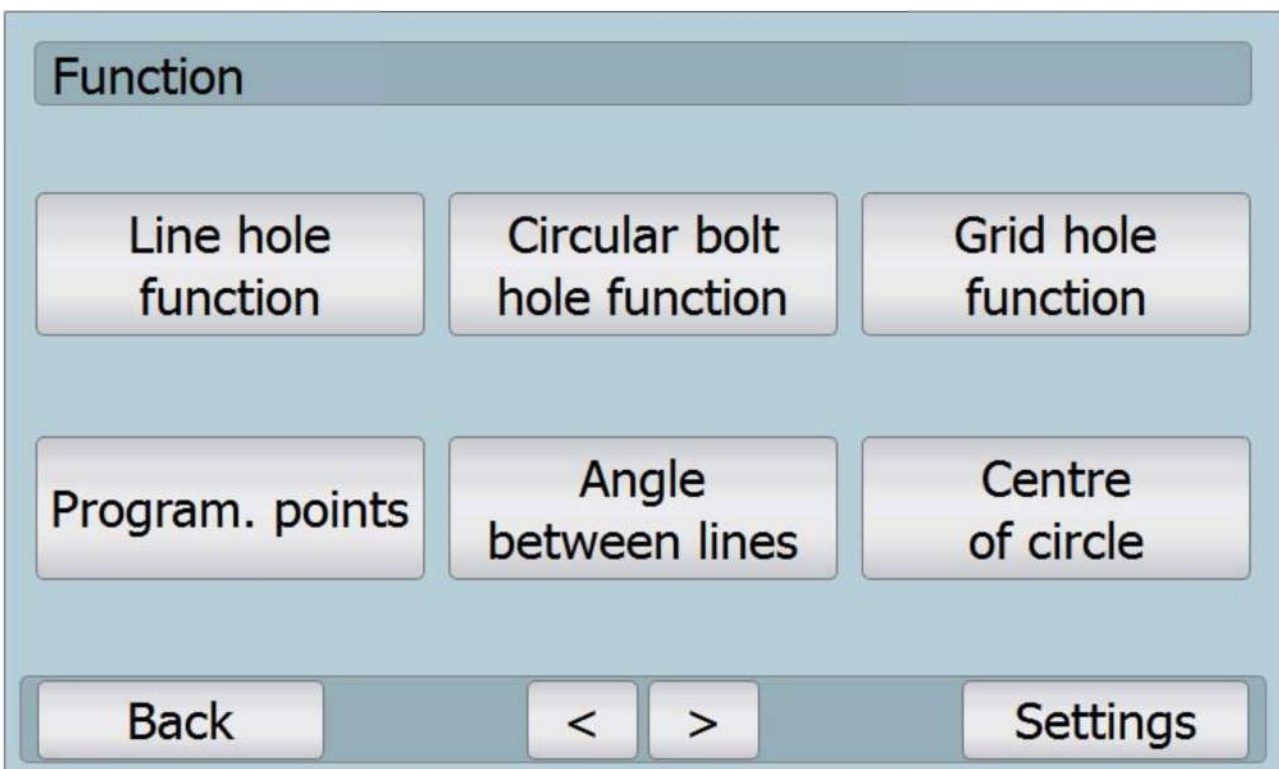

Fig. 7: The extension menu functions for the device type miller
⑩ Pressing the button „Menu“ displays the option with functions and setting. If in the mode for the grinder or the lathe, the buttons are not displayed „<“ a „>“ for other functions.
⑩ If in the mode for the miller and the buttons are used for the selection of other functions („<“ and „>“), the extension functions are displayed (see fig. 7: The extension menu functions for the device type miller).
- ⑩ Miller parameter setting
- ↘ In this type of device, the menu displays functions for drilling holes, angle search between the lines or searching for the circle centre (see fig. 7: The extension menu functions for the device type miller).
- ⑩ It is possible to set the machine shift for individual axes.
- ⑩ The values can be changed for every axis separately.
- ⑩ In case of selecting the device type lathe or grinder cannot use the extending functions (see fig. 7: The extension menu functions for the device type miller).